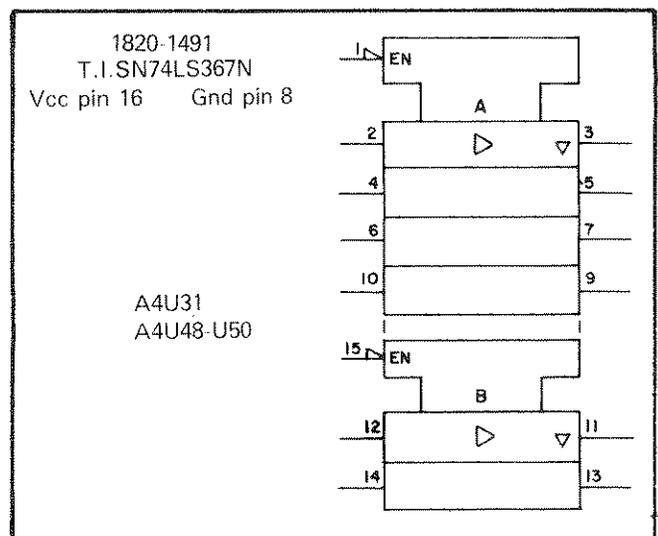

Figure B-26. Bus Driver
**Bus Driver.** The bus driver shown in Figure B-26 contains six three-state drivers, four of which have one enable input, and two of which have a separate enable input.